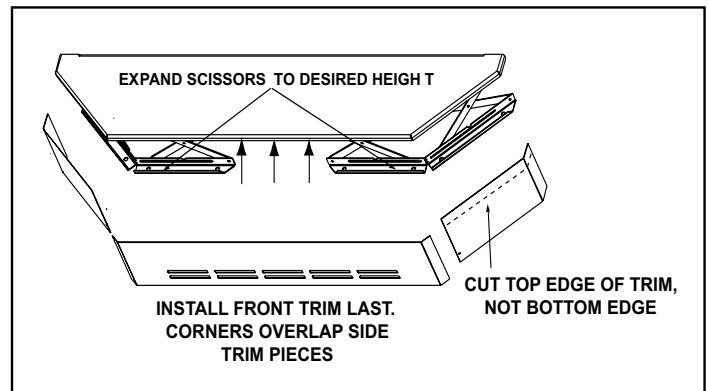

Figure 15.2
3. Measure trim to required height to cover scissors and mark piece for cutting. Cut excess material from **top** of trim's edge, not bottom. This edge will be sharp; wear gloves to prevent injury to your hands. **Figure 15.2.**